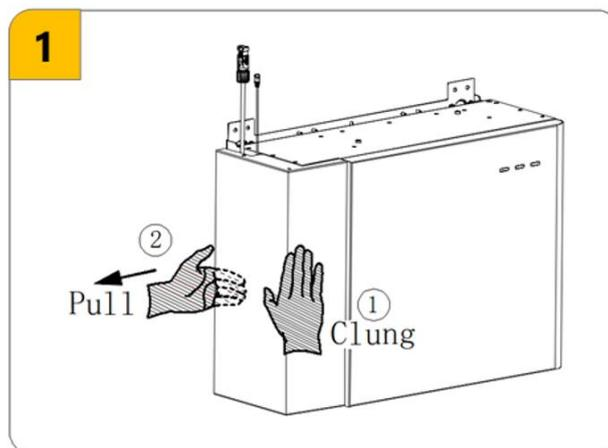

Figure 6-35 Remove the c wire of the battery
2. Grasp the cable cover, then move it to the left, Refer to 1 in Figure 6-35.